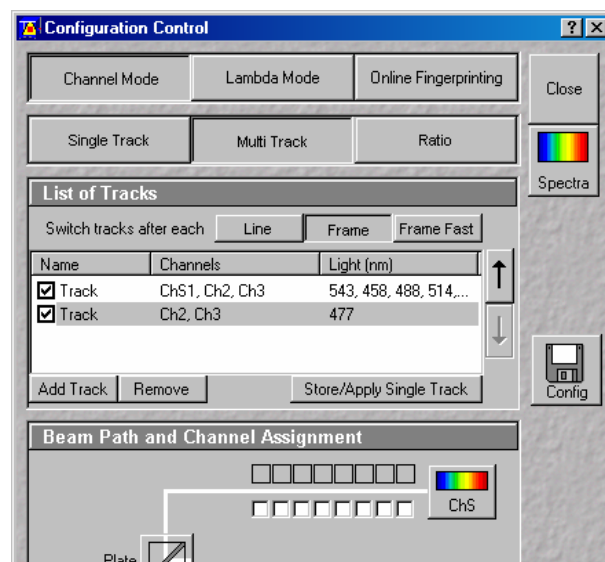

Fig. 15 Configuration Control window for Multi Track
- Select **Channel Mode** (Fig. 15).
- Click on the **Multi Track** button in the **Configuration Control** window (Fig. 15).
The following functions are available in the **List of Tracks** panel (Fig. 15).